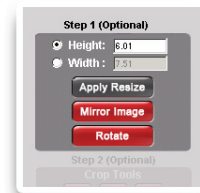

Figure 2. Resize, mirror or rotate image.
STEP 1: RESIZE THE IMAGE (optional) – See Figure 2